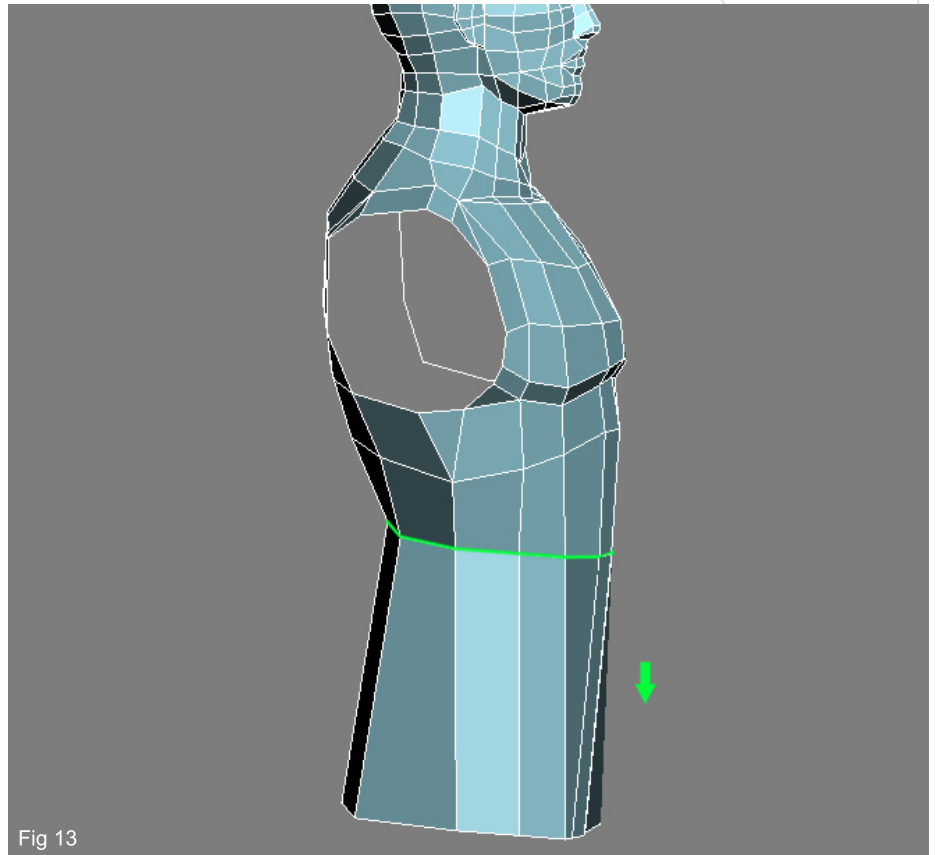

Fig 13
13. Now select the bottom row of edges once more and copy these downwards by quite a way (Fig13).